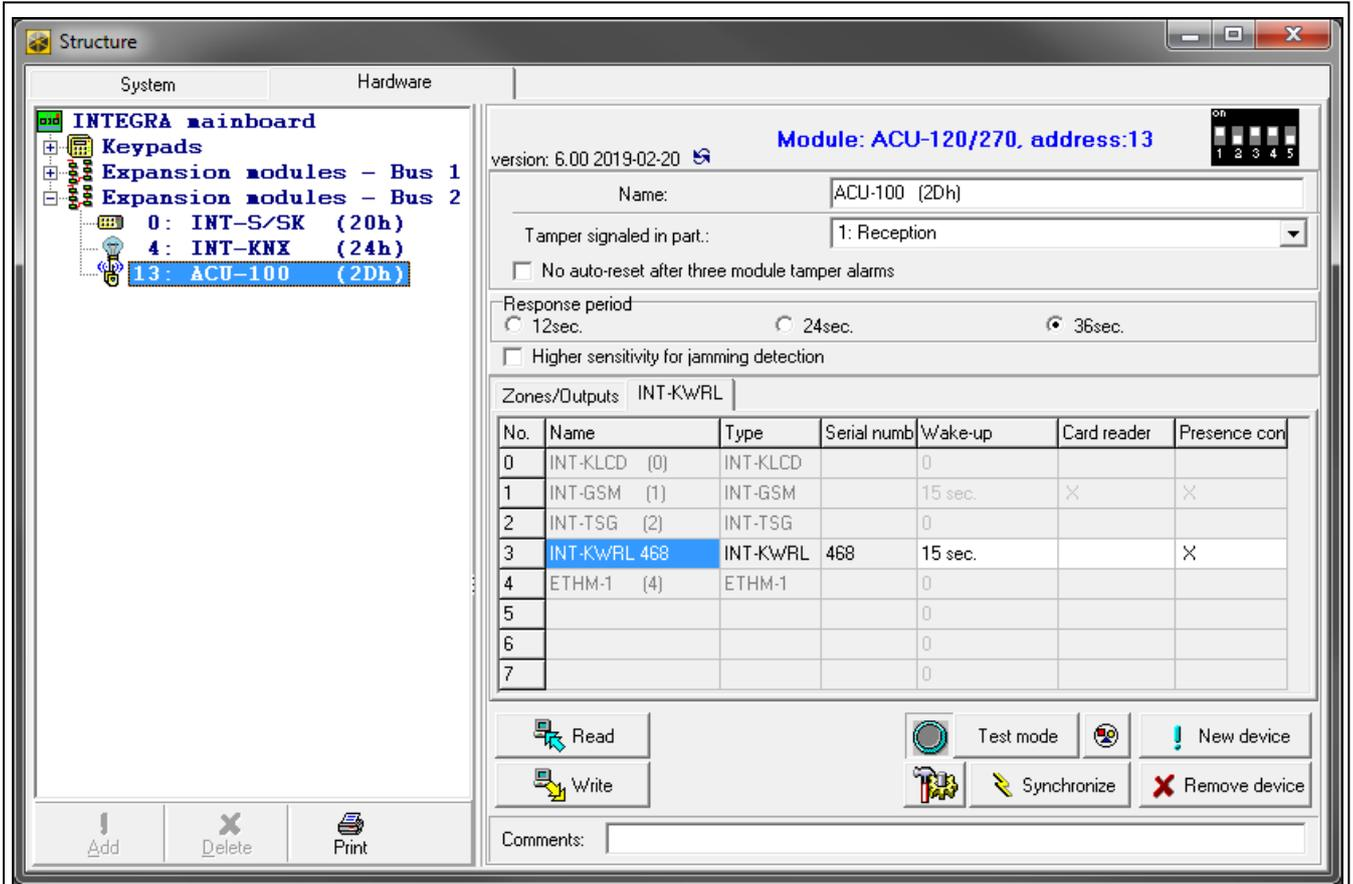

Fig. 4. DLOADX program: keypad settings stored in the ABAX 2 / ABAX controller.
You can add wireless keypad in the “Structure” window, “Hardware” tab, after clicking on the name of ABAX 2 / ABAX controller on the list of devices, and then on the “INT-KWRL” tab (see Fig. 4 p. 7).
You can remove the wireless keypads in the “Structure” window, “Hardware” tab, after clicking on the name of ABAX 2 / ABAX controller on the list of devices, and then on the “INT-KWRL” tab (see Fig. 4 p. 7).
- DLOADX program: →“Structure” window →“Hardware” tab →“Expansion modules” branch →*[controller name]* →“INT-KWRL” tab (see Fig. 4),